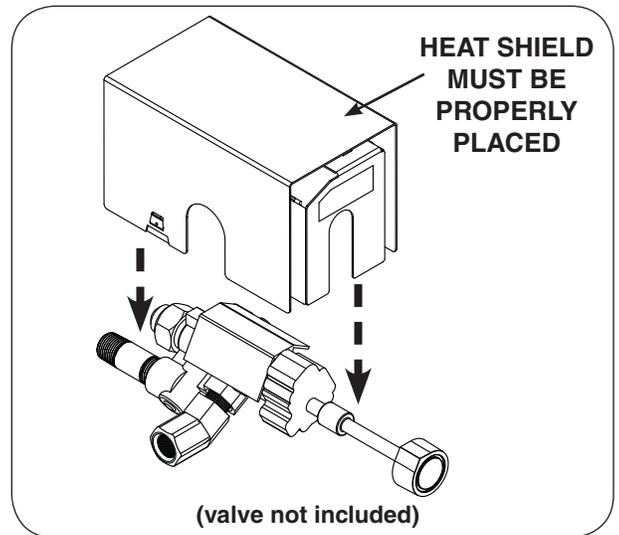
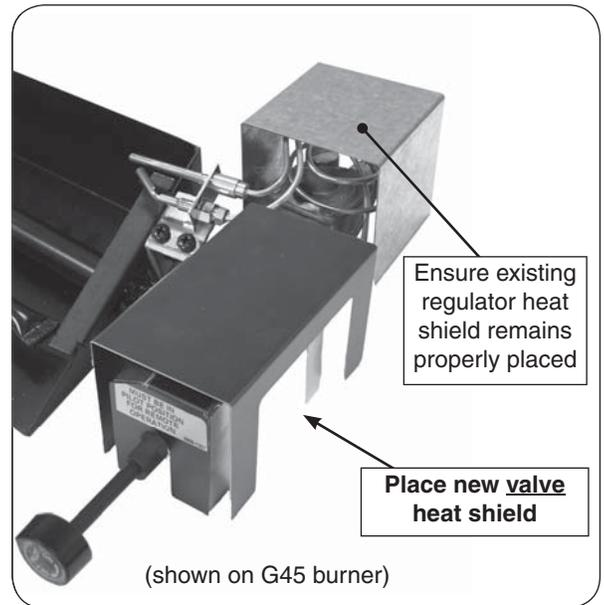

Fig. 1-1
Fig. 1-2
2. Cover the valve with the heat shield as shown in Fig.1-1 and Fig.1-2.